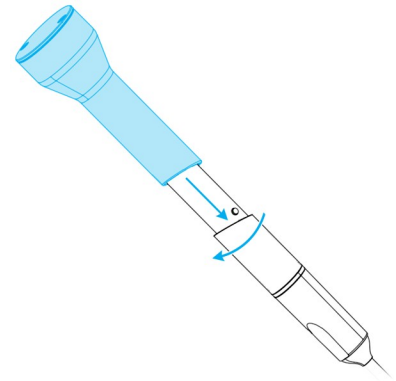

Figure 10: Using the integrity-check sleeve
3. Slide the integrity-check sleeve on the handpiece and rotate clockwise to lock into position (see *Figure 10: Using the integrity-check sleeve*, p. 36).